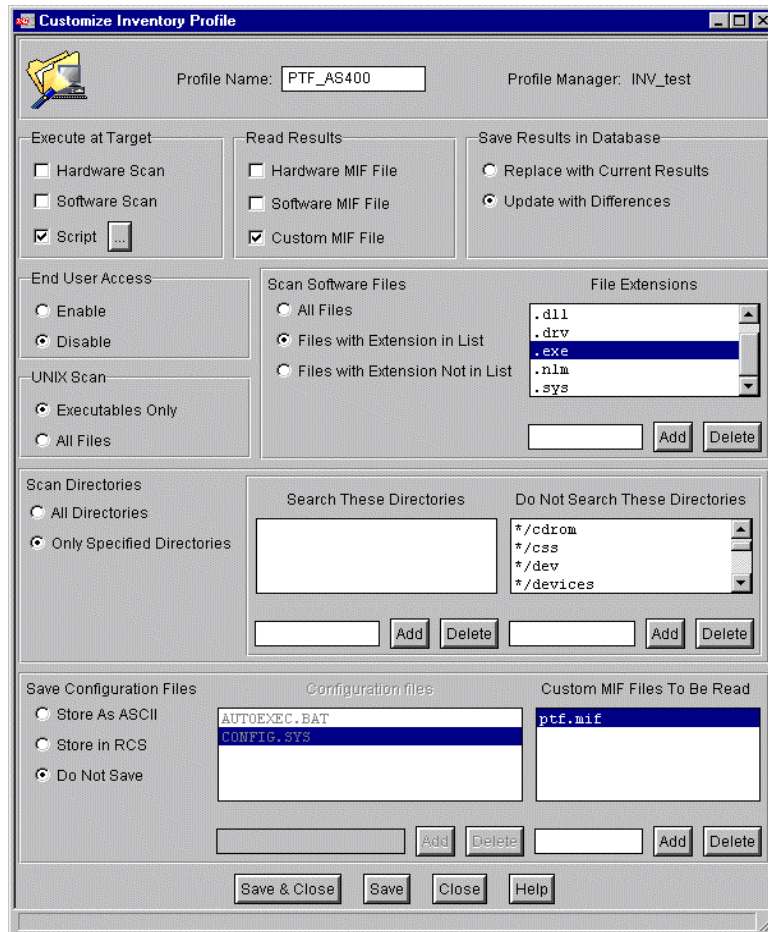

Figure 326. Customizing an inventory profile for an AS/400 PTF scan
5. Since we are using a custom MIF file, select the **Custom MIF file** checkbox in the Read Results section. We also need to add `ptf.mif` to the Custom Files to be Read section as shown in Figure 326 on page 493.